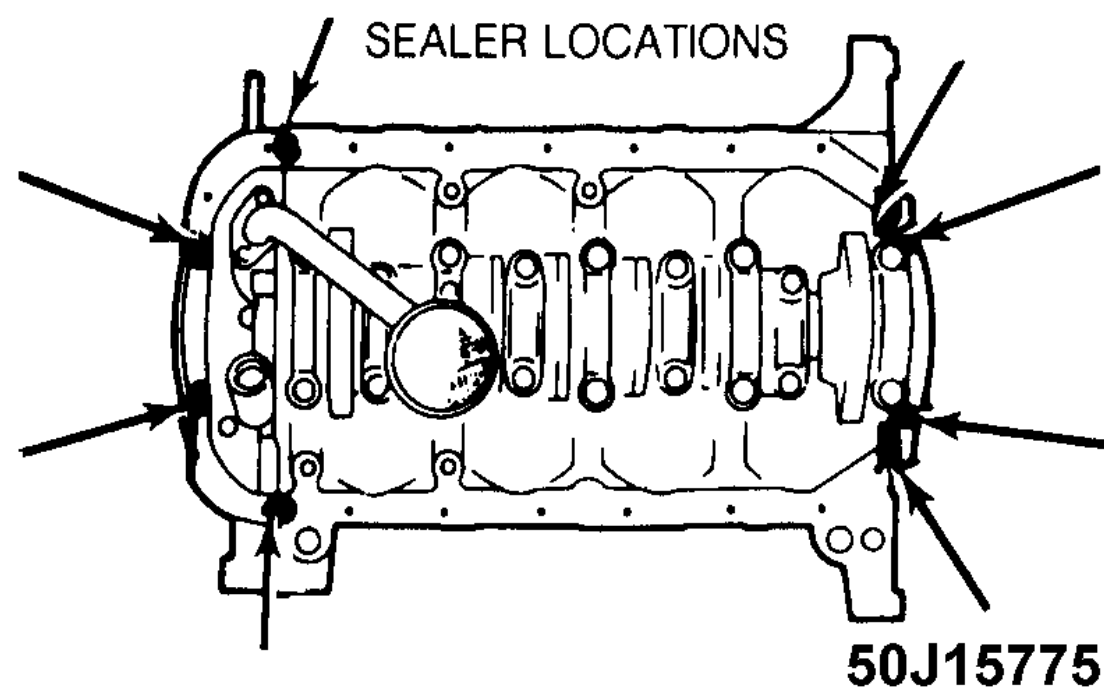

Fig. 8: Identifying Oil Pan Sealing Points
1. Clean pan and block gasket surfaces. Apply Gasket Sealant (E3AZ-19562-A) to new front and rear pan seals. Install seals to cylinder block. Apply Gasket Sealant (E3AZ-19562-A) to oil pan gasket surface. See Fig. 8. Install oil pan and tighten pan retaining bolts to specification. See TORQUE SPECIFICATIONS table at end of article.